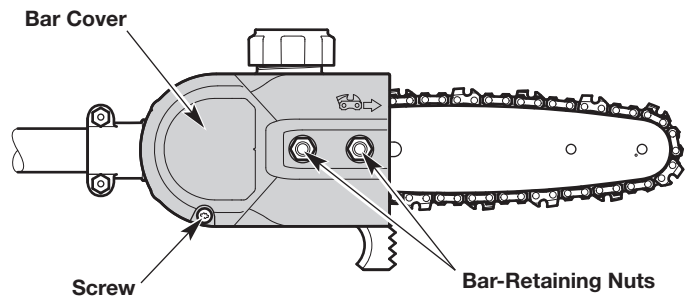

Fig. 13
1. Remove the screw and two (2) bar-retaining nuts (1/2 inch) (Fig. 13).
2. Remove the bar cover (Fig. 13).
1. Loosen the bar-retaining nuts, but do not remove them (Fig. 13).